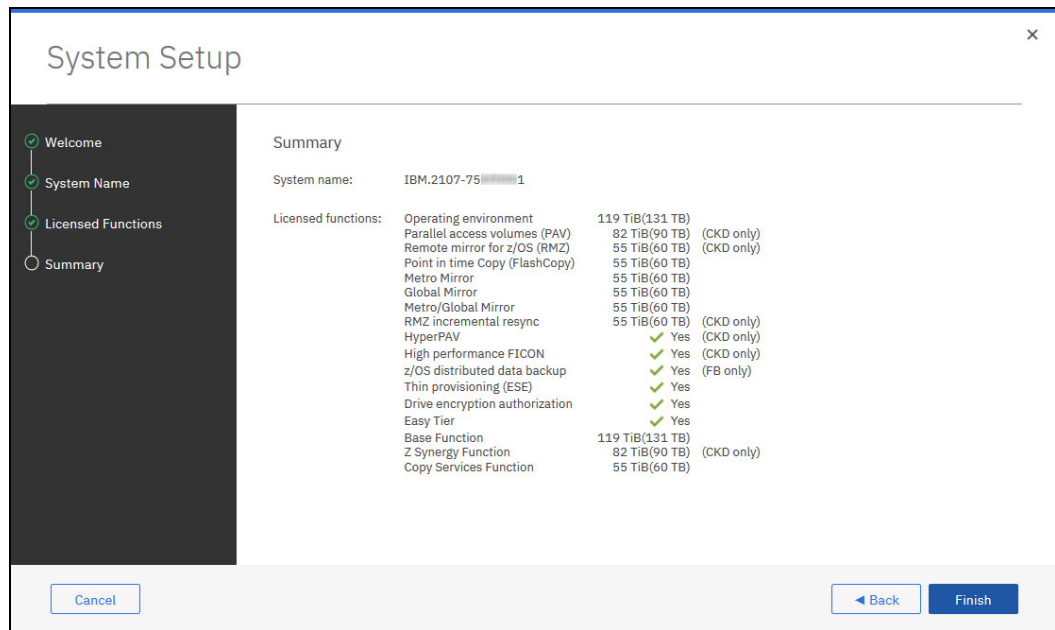

Figure 7-4 Summary of licensed functions
- Click **Summary** in the System Setup wizard to view the list of licensed functions or feature keys that are installed on your DS8000, as shown in Figure 7-4.